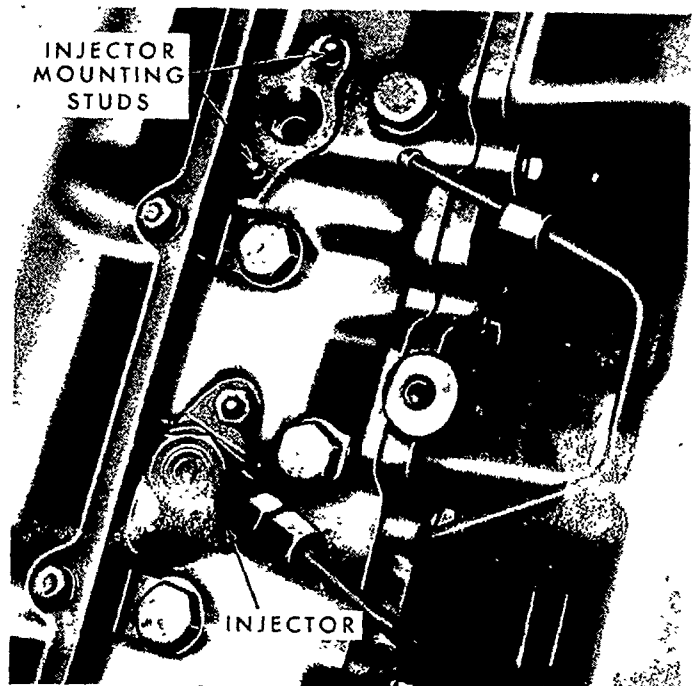

Figure 7
11. Disconnect the injector leak-off pipe. Remove the two nuts from the studs that retain each injector, Figure 7, and remove each injector from its bore in the cylinder head. Be sure the area surrounding the injectors is clean of any dirt. If the injectors cannot be readily pulled by hand, it may be necessary to pry the injectors out.